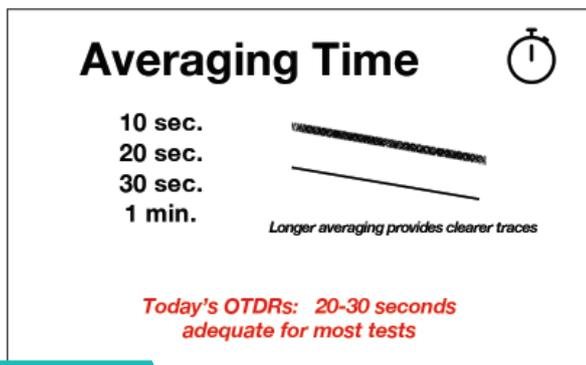

Figure 4.
- With today's OTDRs, averaging for 20-30 seconds is almost always adequate. If only testing a few strands, I usually average for 30 seconds. If testing many fibers over multiple spans at multiple wavelengths, I will average for 20 seconds. This still results in good traces and saves 10 seconds per wavelength. While a 10-second decrease may not sound like much impact, testing 3 wavelengths bi-directionally will result in over 60 seconds of test time per fiber. If testing 25 fibers over multiple spans, you can see how the overall time added becomes notable. (See Figure 4.)